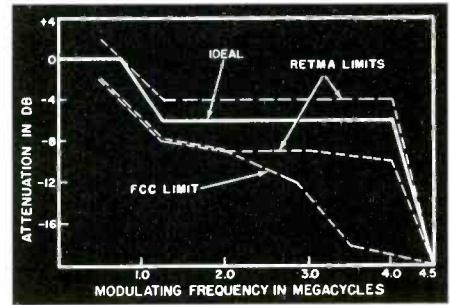

Fig. 1. Transmission characteristics.
Figure 1 illustrates the idealized picture transmission-amplitude and, conversely, the transmitter-attenuation characteristics with the limits which fall within FCC and RETMA specifications. In general, most television transmitters closely duplicate the ideal characteristic. Figure 3 compares the system response for: (A) double-sideband transmitter and double-sideband receiver, (B) a double-sideband transmitter and vestigial-sideband receiver, (C) vestigial-sideband transmitter and